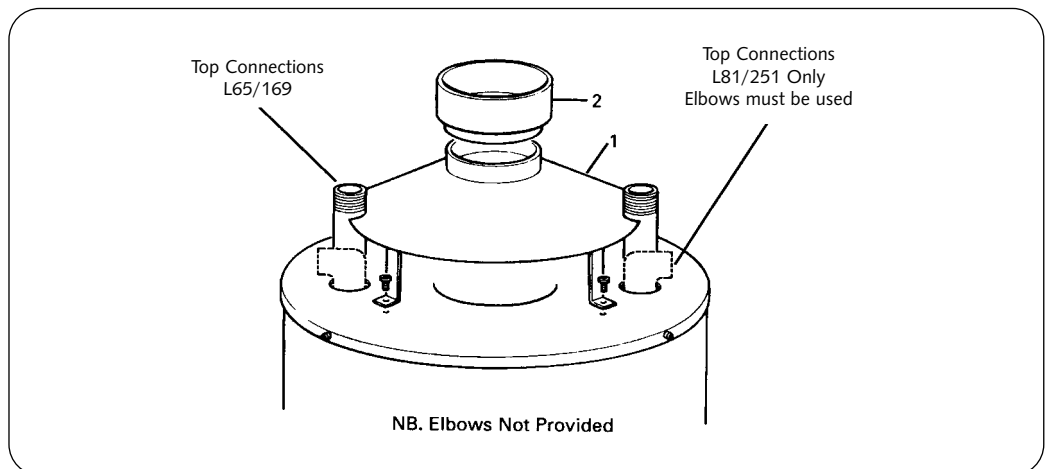

Fig. 1
Attach the legs to the draught diverter with the nuts and bolts provided. Fit the draught diverter (1) as shown in Fig.1 to the water heater using the screws provided.
Fit the adaptor socket (2) and caulk into the draught diverter as shown in Fig. 1.